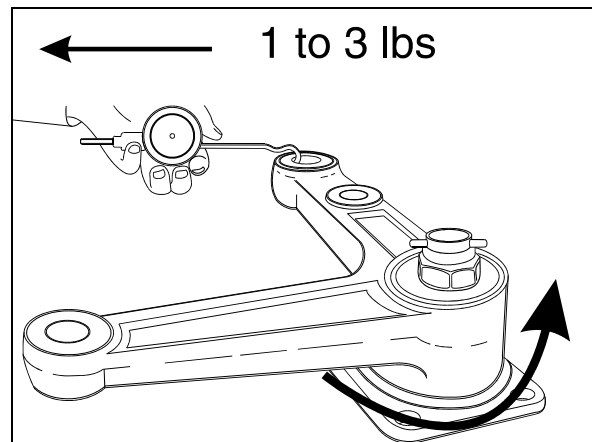

FIGURE 20: BELL CRANK 16045
6. Unscrew nut until bell crank or idler arm starts to turn by the application of 1 to 3 pounds load (Fig. 20).
7. Check for loose bearings by applying an up and down load on bell crank or idler lever (Fig. 20). The lever is not supposed to move in the vertical axis direction.